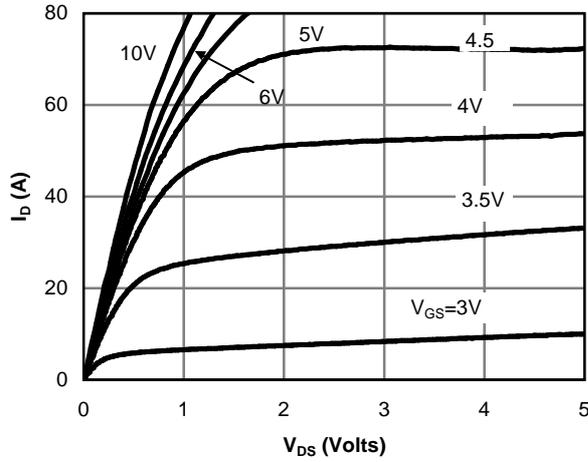

Fig 1: On-Region Characteristics
E. The static characteristics in Figures 1 to 6 are obtained using  $<300\mu\text{s}$  pulses, duty cycle 0.5% max.